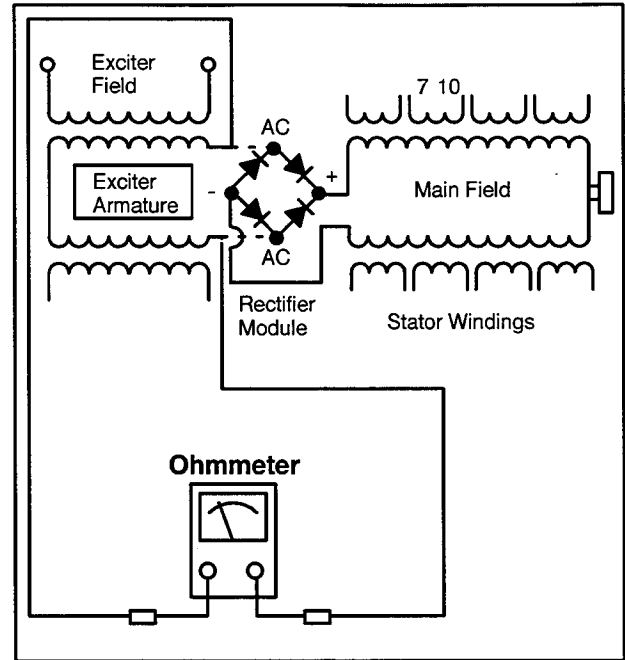

Figure 7-21. Exciter Armature Ohmmeter Test
2. With an ohmmeter on the R x 1000 scale, check resistance across exciter armature leads. See Figure 7-21. The armature resistance is found in Specifications—Generator of Section 1. No continuity indicates an open armature winding. If the resistance test proves inconclusive, perform a megohmmeter test on the exciter armature as described in the next step.